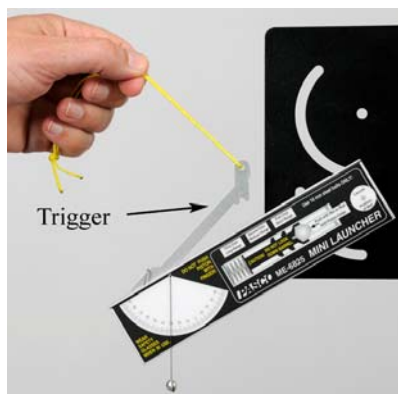

Figure 7: Launching Ball
1. Confirm that the launcher is mounted on the bracket in the lower position (see Fig. 7) so that the ball is launched from "table top" height.